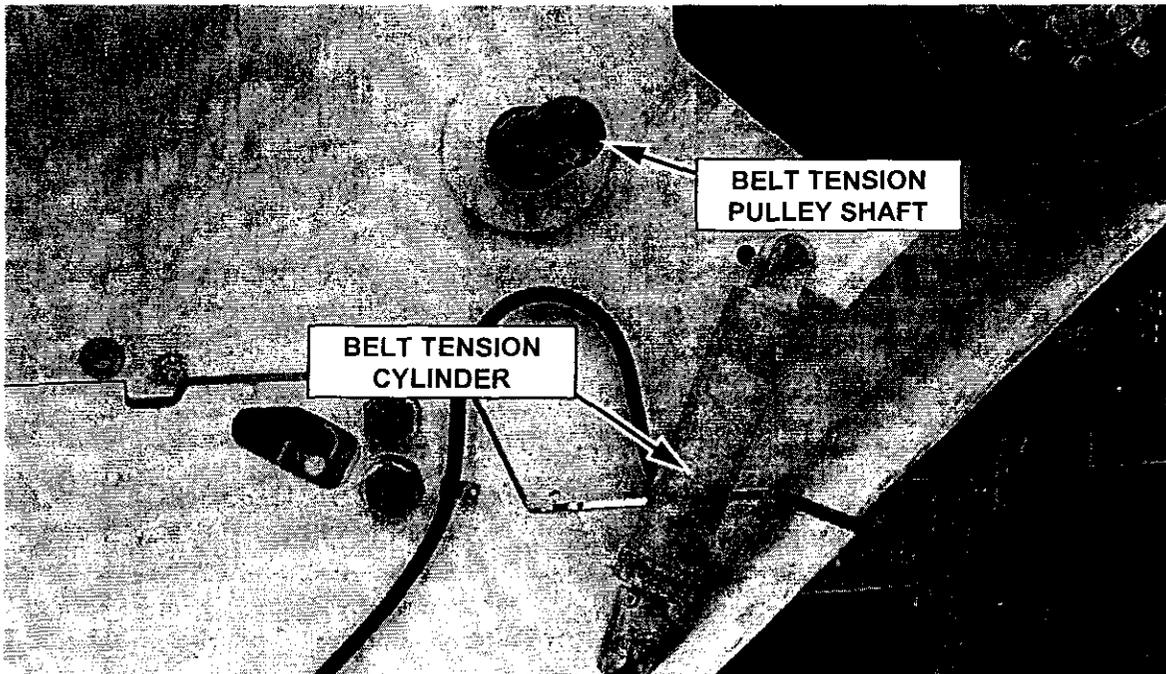

FIGURE 53
4. Remove the belt tension cylinder, and the belt tension pulley (figure 53). Be sure that all loose hydraulic hoses are placed in a safe position as to not be pinched when changing cutter housing.